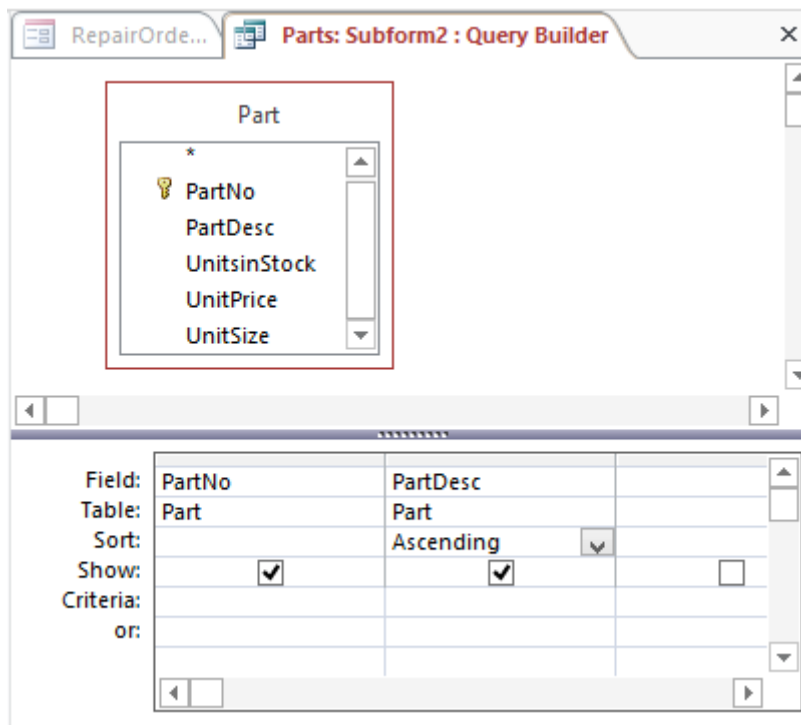

Figure 19: Query for the *Part No* Combo Box
3. Drag the *PartDesc* field down into the query grid. Click in the *Sort* row and choose “Ascending”. (See Figure 19)